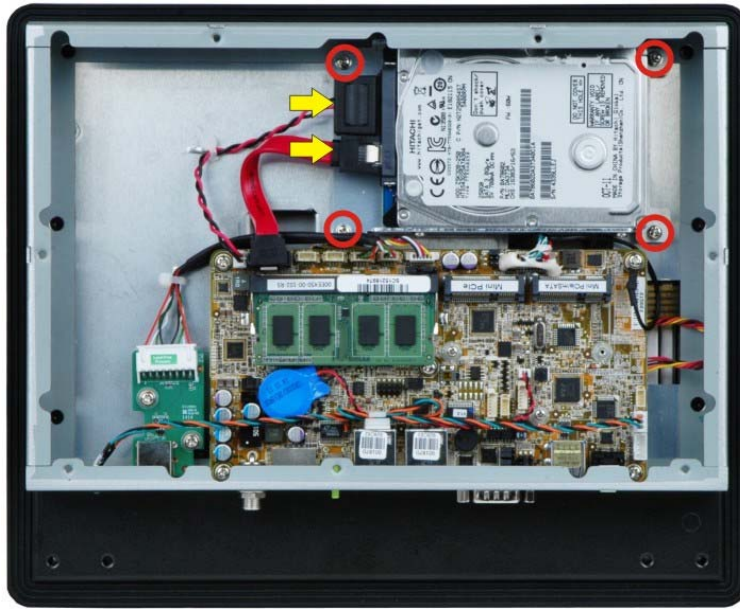

Figure 3-7: PPC-F10B-BT HDD Installation
**Step 5:** Reinstall the HDD bracket into the PPC-F10B-BT and fasten the four hard drive bracket screws (**Figure 3-7**)